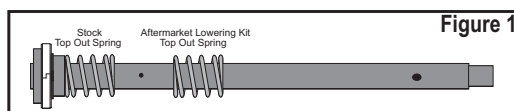

Figure 1
- If your bike is currently equipped with any type of fork lowering kit, such as a standard Progressive Suspension lowering kit or other, You **MUST** remove that kit before installing this Drop-In Kit. The Drop-In fork kit is designed to work **ONLY** with the Stock fork rebound or top out springs. **Figures 1 & 2**